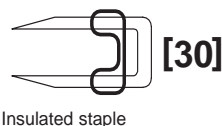

Fig. 3-1
- Mark both sides of garage door frame or wall 5" above floor. **Fig. 3-1.**